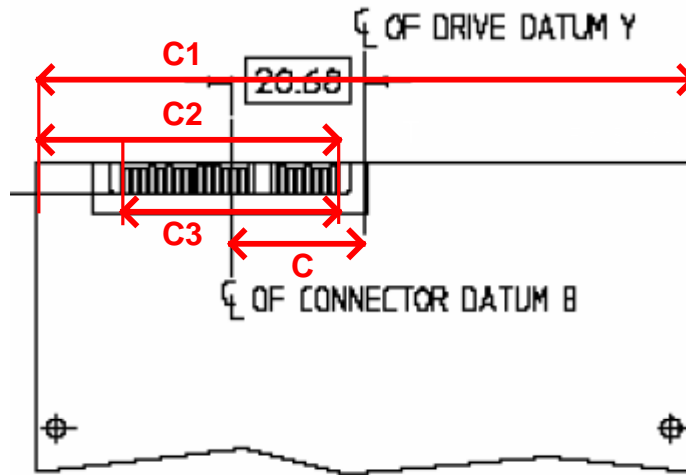

Figure 12
1. Using the outside measurement jaw of the calipers measure the value of  $C1$  as shown in Figure 12. Record the value of  $C1$ .
2. Using the outside measurement jaw of the calipers measure the value of  $C2$  as shown in Figure 12. Record the value of  $C2$ .